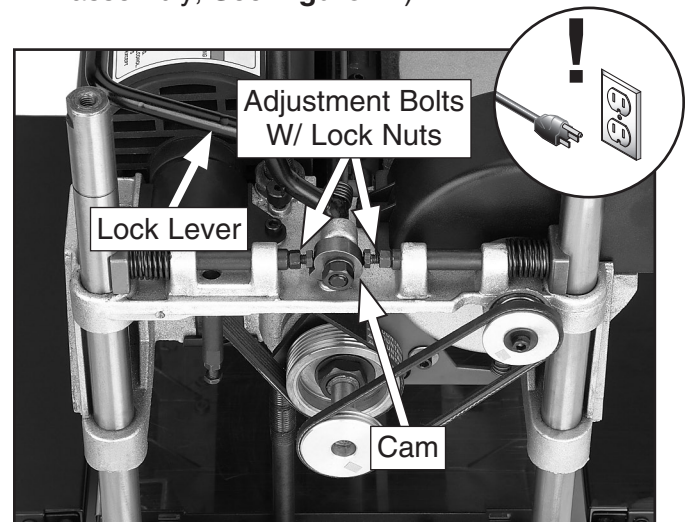

Figure 41. Elevation lock adjustment.
3. Locate the four elevation lock adjustment bolts (two at each end of the cutterhead assembly; See **Figure 41**).